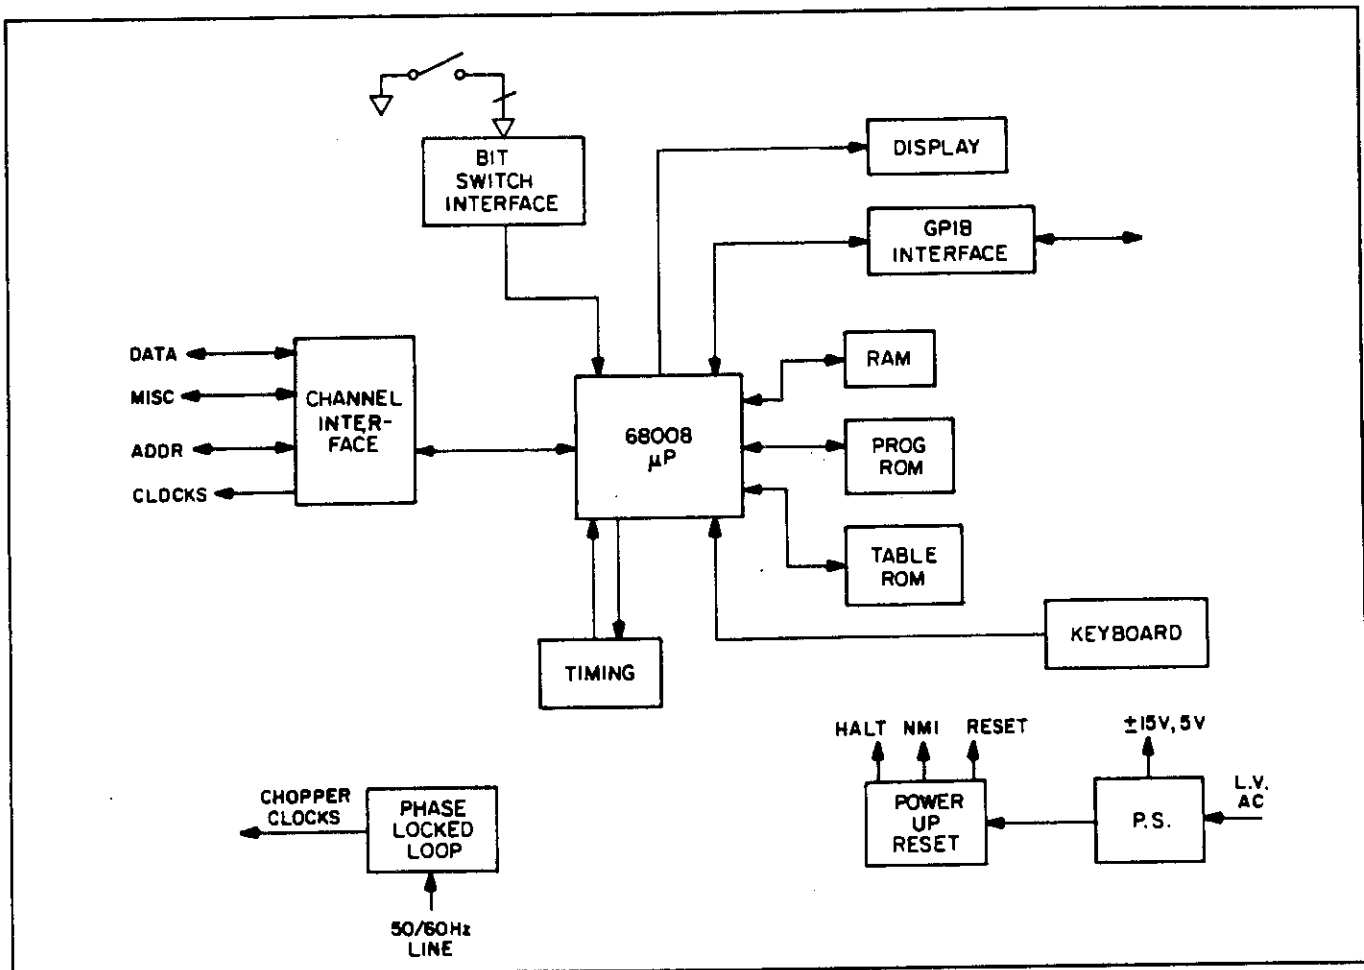

Figure 5-3. Control Board Block Diagram
1. **General.** Refer to Figure 5-3. The operation of the instrument is under control of a 16-bit microprocessor.